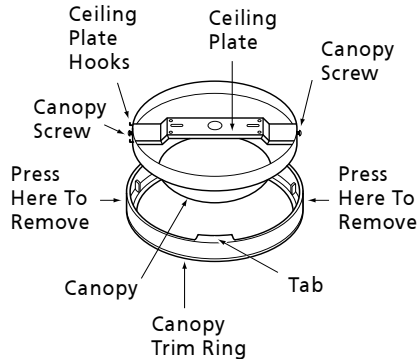

Figure 6b - Placement of the Trim Ring
2. Rotate the canopy trim ring so that the two tabs are 90 degrees or perpendicular to the two canopy screws. (See Figure 6b.)
Note: To remove the canopy trim ring, press firmly on opposite sides of the ring towards the canopy as shown in Figure 6b. The tabs will flex out releasing the trim ring from the canopy.